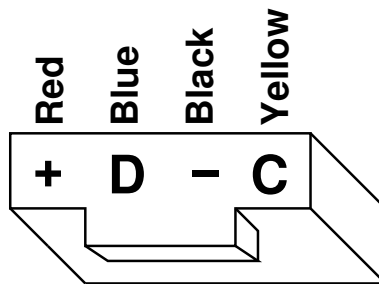

Figure 2: Order of wires on the i2c cable
- (c) If you already have an i2c cable, now might be a good time to hook things up and test with i2c-scan to see if it is detecting properly. The pinout for the cable is shown in Figure 2, the signals are not marked on the board.